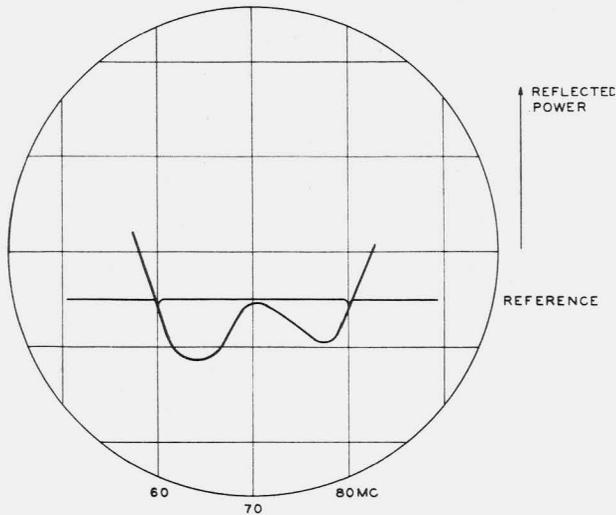

Fig. 17 - Typical Modulator IF Impedance Characteristic
(2) Adjust AT13 and AT14 to the lowest value at which the test trace remains below the reference trace between 60 and 80 mc. A typical picture is shown in Fig. 17. Deduct the combined settings of AT13 and AT14 from the reference setting, 50 db. The resultant is the return loss.